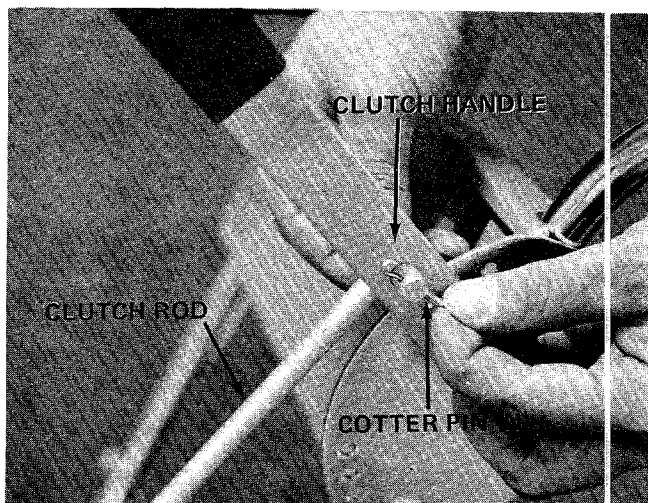

FIGURE 9.
11. Secure throttle control wire to handle with cable clips (E) provided in hardware pack.
12. Place one end of clutch rod into hole on clutch handle. Secure with cotter pin (N). See figure 9.